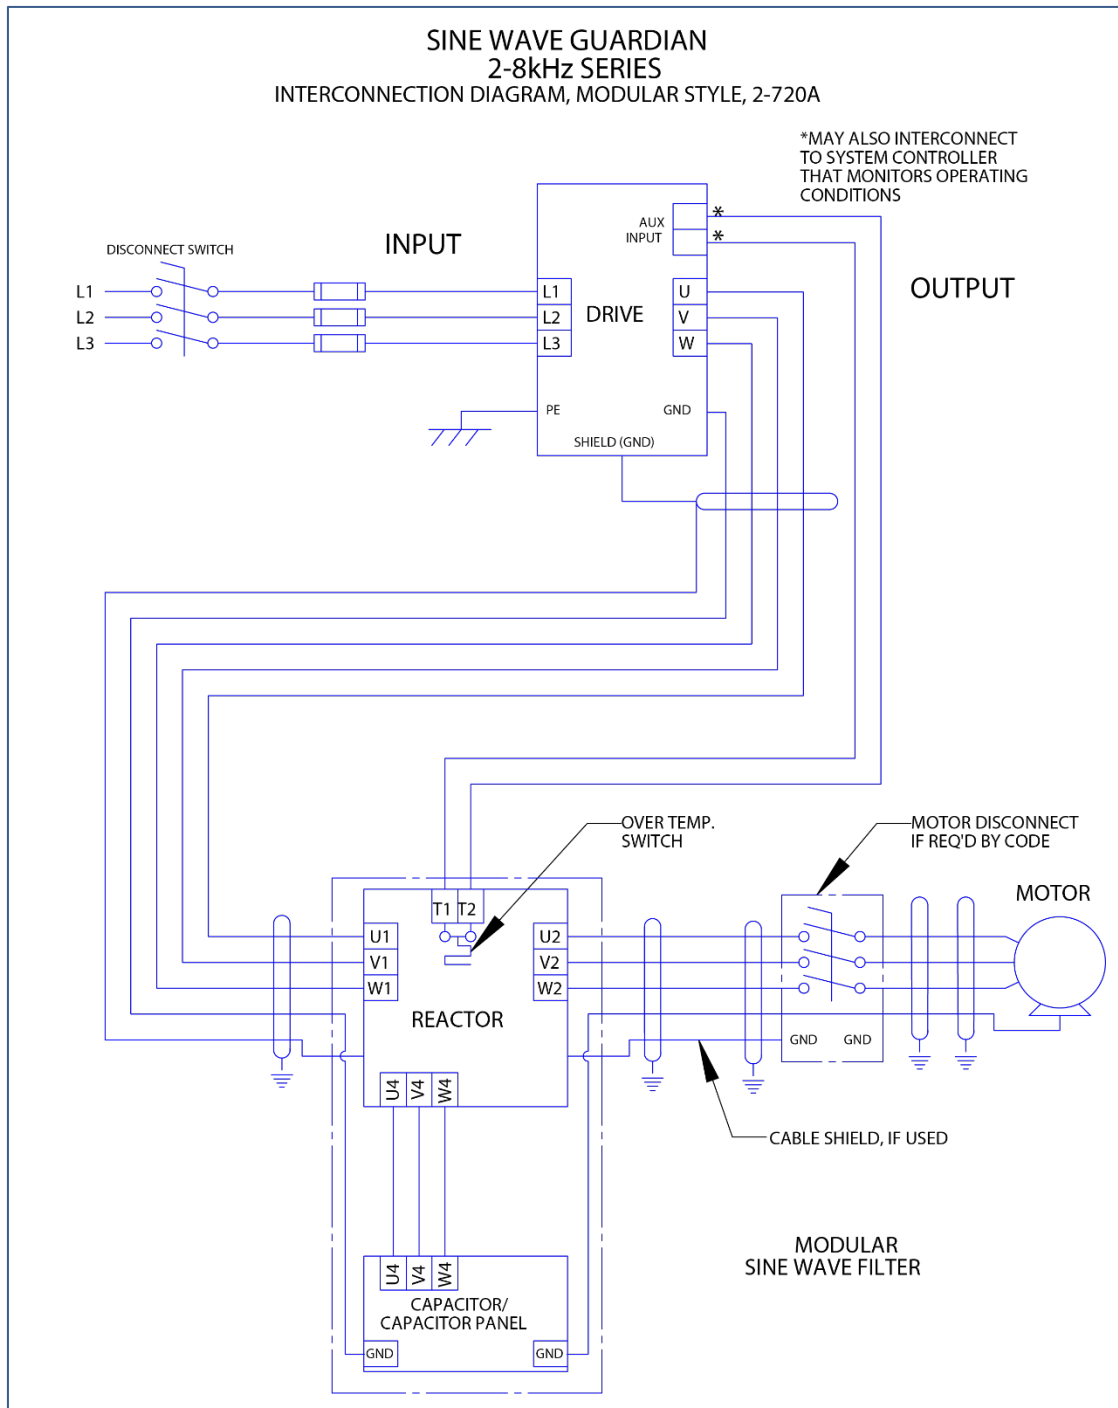

Figure 5-1: Modular Interconnection
- For modular filter applications, interconnection between the filter, its power source, the cap-panels, and the drive is shown in Figure 5-1: Modular Interconnection (p27).